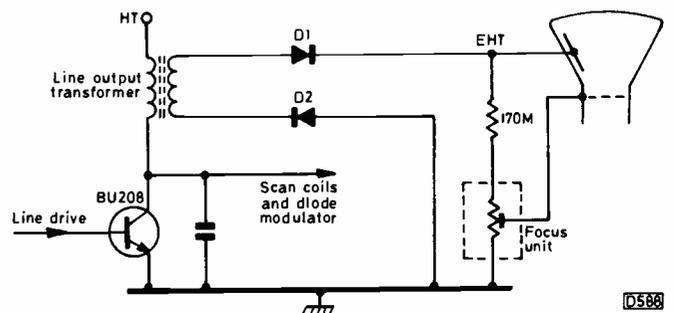
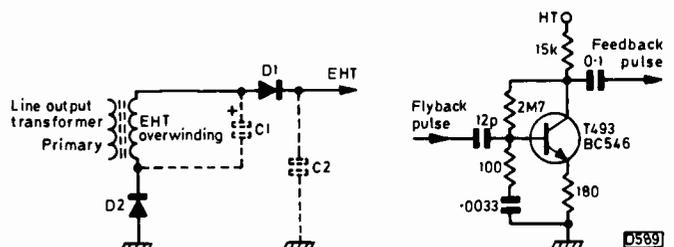

Fig. 1: "Push-pull" e.h.t. rectifier circuit.
Fig. 2 (left): Operation of the rectifier circuit. Fig. 3 (right): Feedback pulse generator stage.
Because of the small bandwidth of the signal – the maximum frequency was about 13kHz, while for broadcast transmission it was around 9kHz – it could be recorded on a conventional 78 r.p.m. gramophone record. Baird's patent number 289,104, filed on October 15th, 1926, describes a disc cutter and reproducer (see Fig. 1) for use with his proposed TV system. The patent includes details of the disc's groove structure, which was envisaged as consisting of two parallel sections, one carrying the sound and the other the vision signal. A double-headed pickup for reproduction was also described, and Baird coined the name Phonovision for the system. In practice Baird never seems to have developed the double-groove system, the few surviving examples of Baird discs all being single grooved with no sound track.
Fig. 1: Baird's 1926 ideas for a video disc recorder and player – Phonovision. The lower part of the diagram shows details of the proposed twin-groove arrangement. (10) Subject matter. (11) Nipkow disc. (12) Light-interrupting device. (13) Photocell. (14) Amplifier. (19) Microphone. (20) Pick-up transducer. (15a/16) Vision signal groove cutter. (21) Sound pick-up microphone. (22/23) Sound signal groove cutter. (18/25/26) Disc. (29) Hill-and-dale modulation for the vision signal. (30) Side modulation for the sound signal.
Fig. 2: Baird's 1928 idea for a combined disc player and television. (1) Disc. (2) Combined turntable/Nipkow disc. (3) Scanning holes. (4) Modulated neon light source. (5) Viewing lens. (6) Pick-up.
In April 1928 Baird registered a patent for a complex system in which a disc player and television were linked via a mechanical gear train. It's not known whether he ever built the device, and in October of that year another Baird patent proposed a more elegant solution. This consisted of a combined disc reproducer and viewer, with the record player turntable also acting as the television scanning disc (see Fig. 2). As the turntable/disc were combined, sync could not be lost once it had been set up by carefully
The main design advance however is the use of what Telefunken call the "push-pull high-voltage concept". This uses two rectifier diodes, one at each end of the winding as shown in Fig. 1. The action of the circuit is shown in Fig. 2. D1 acts as a conventional peak rectifier when the positive-going flyback pulse arrives at its anode, charging